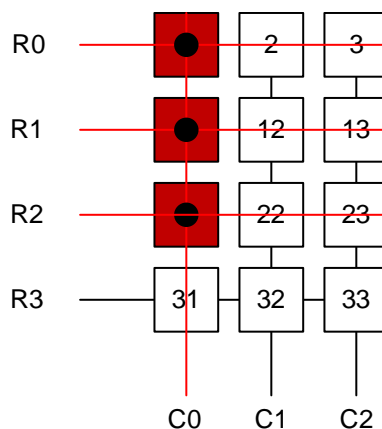

**Figure 27. Incorrect 3 Button Combination**
In Figure 27, keys 1, 2, and 11 are pressed, which causes a ghosting issue. Since R1 becomes pulled to ground through key 1 (which is pulled through key 2 when C1 is transmitting a low), when C1 is driving low, the TCA8418 will see a low signal at both R0 and R1. This will falsely trigger key 12 as being pressed (the key highlighted as yellow).